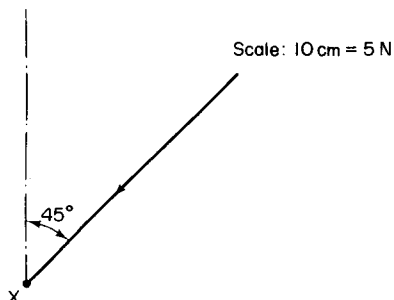

Fig. 2.12
**Example.** A force of  $15 \text{ N}$  pushes towards a point X and it acts in a direction which is  $45^\circ$  to the vertical. Represent this force graphically. The method is shown in Fig. 2.12.